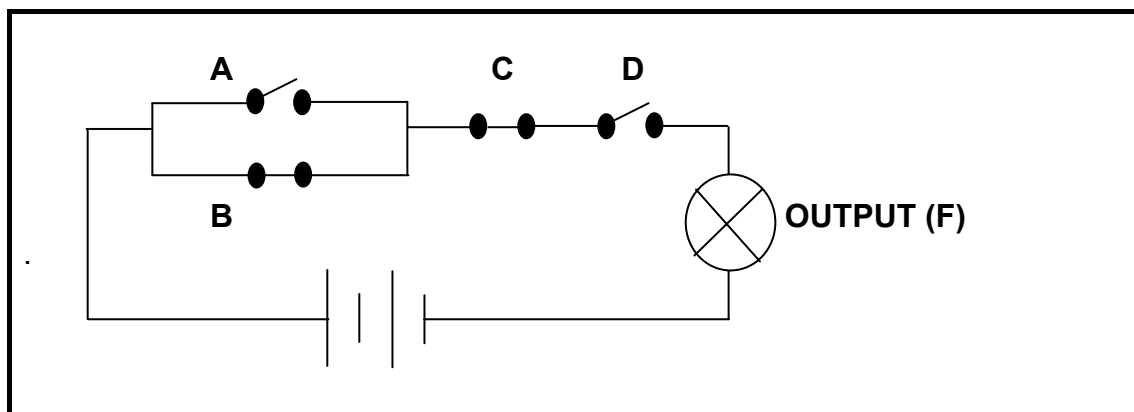

FIGURE 9.2 – SERIES AND PARALLEL CIRCUIT
9.4 Draw the ladder diagram of the circuit shown in FIGURE 9.2 below.